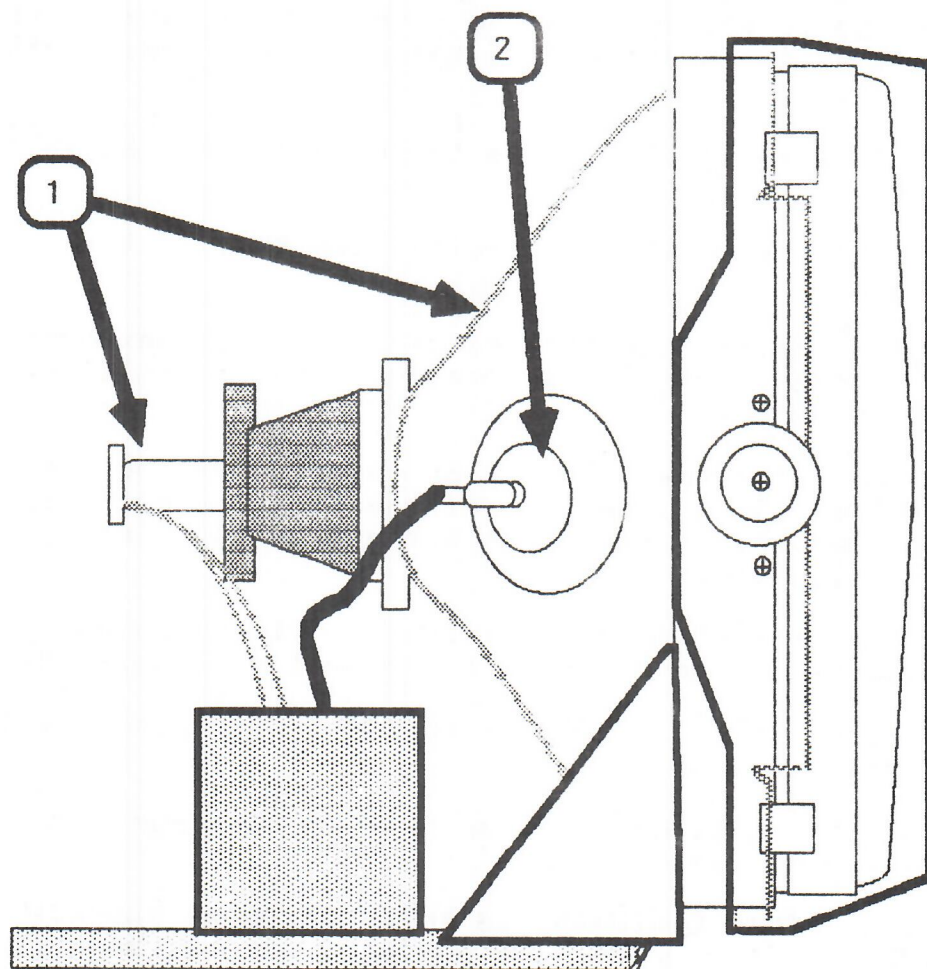

FIGURE 1
2. **ALWAYS DISCHARGE THE CATHODE-RAY TUBE (CRT) (Figure 1, #1) BEFORE REMOVING OR REPLACING ANY INTERNAL PARTS.** The Cathode-Ray Tube in the Monitor // is an extremely dangerous piece of equipment. It runs at 12,000 volts DC and contains a high vacuum. Before touching any internal components you must discharge the CRT.
6. **NEVER TOUCH THE ANODE** Normally the anode has a connector (Figure 1, #2) plugged into it, but when a CRT is replaced, this connector is removed, exposing the anode. The anode can maintain a charge of several thousand volts (even after the power is off).